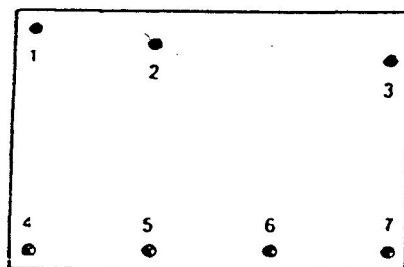

Figure 1
- 2) Place the console "bottom up" and remove the phillips head screws (1 thru 7) from the bottom cover. See FIG 1. Place the screws aside for reinstallation. Remove the bottom cover and set aside.